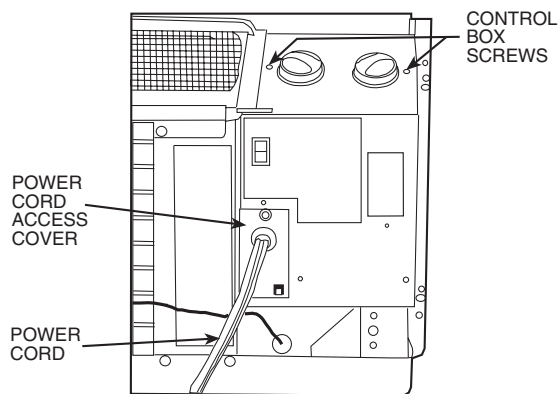

Fig. 3 — Control Box Component Location
- Step 3** — Remove power cord access cover and save screw for later use. See Fig. 3.
- Step 4** — Open control box by removing 2 screws. Save screws. See Fig. 3.
Step 3 — Remove access cover from control box and disconnect plug assembly. See Fig. 3 and 5.